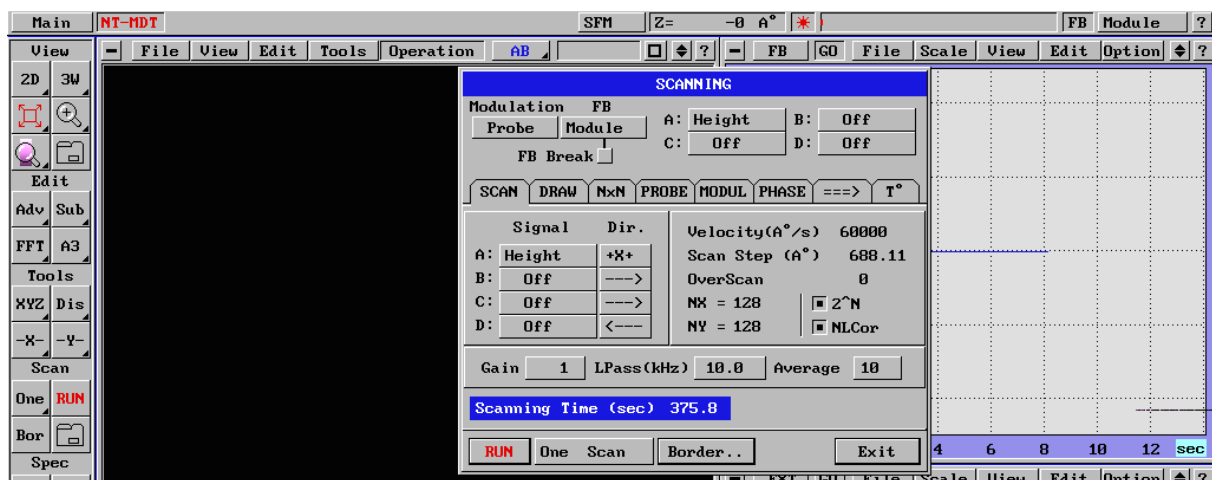

Fig. 212
Velocity - 60000 A/nae (Fig. 212)
NX xNY - 128 o 1289 (Fig. 212)
Step (A) - max10 (Fig. 212)
NL Corr - on (Fig. 212)
Scan dir - +X+ (Fig. 212)
Gain = 1 (Fig. 212)
Lpass(kHz)=10 (Fig. 212)
Average = 10 (Fig. 212)